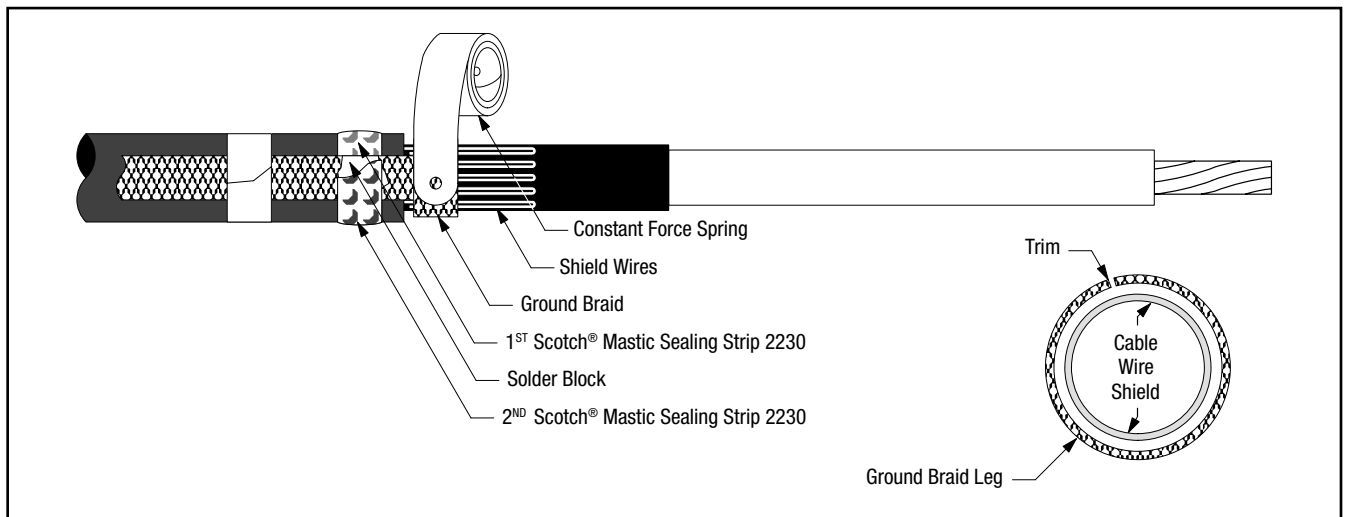

Figure 11
- 8.3 Wrap ground braid around cable shield wires one complete wrap, trim excess to prevent overlap and secure in place with constant force spring. Wrap spring in same direction as ground braid (*Figure 11*). Cinch (tighten) the spring after wrapping the final winding.
- 8.4 Select second Scotch® Mastic Sealing Strip 2230 from kit and remove white release liners. Apply a second **SINGLE WRAP** of mastic over solder block on ground braid and previously applied mastic (*Figure 11*). Cut off excess.